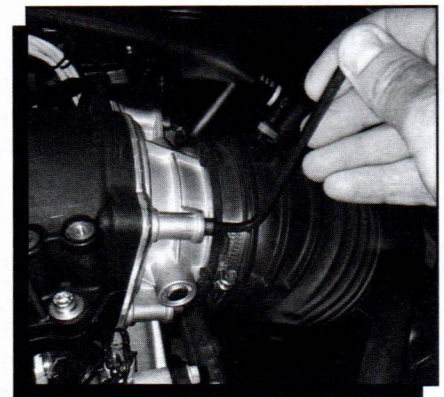

Figure 15 Installing the Throttle Body.
9. Locate the four new M6x1.0x40mm bolts and washers (ID6.4xOD12.5x1.4mm Thick). Torque uniformly to 89in-lb (Figure 15).